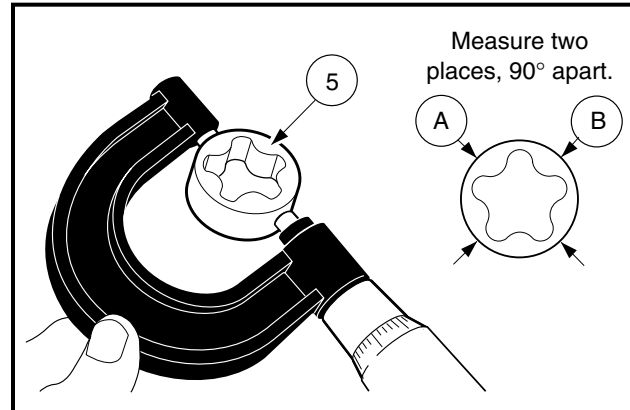

Figure 13-67 Measure Outer Rotor O.D.
- 4.2. Using a micrometer, measure the diameter of the outer rotor at several points (**Figure 13-67, Page 13-34**).